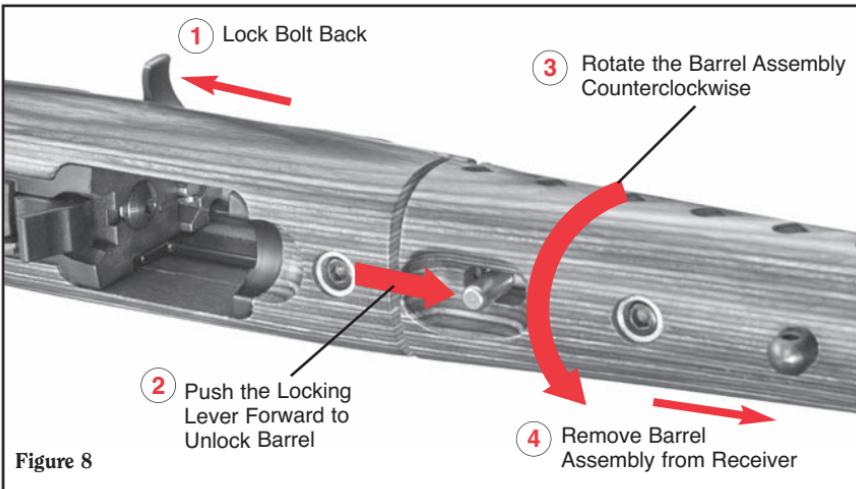

Figure 8
5. To remove the barrel assembly, ① lock the bolt back and ② push the locking lever towards the muzzle. Next, ③ rotate the barrel assembly ***counterclockwise*** and ④ pull the barrel assembly out of the receiver. (See Figure 8.)